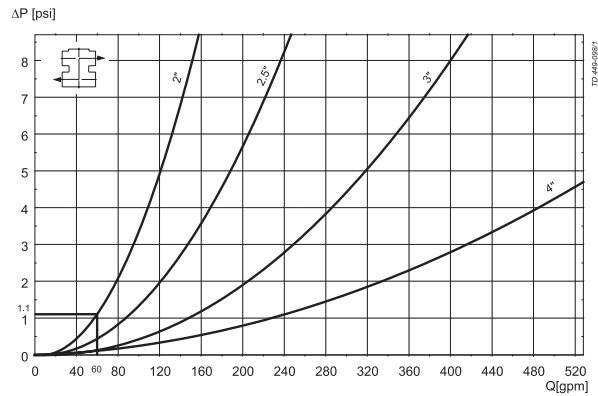

Fig. 3. Pressure drop/capacity diagram, lower body.
- From fig. 3, $\Delta p = 0.72$ psi through upper body.